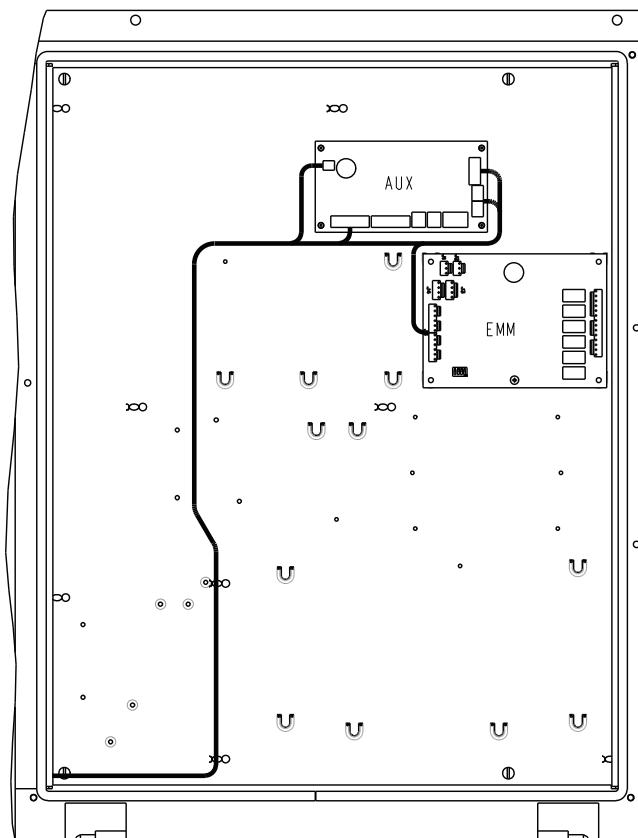

Fig. 17 — AUX Board Installation Location — 38APS065 Units
7. If the unit already has an AUX board installed, skip to Step 9. Install AUX board (Item 14) using 4 AC41AB100 screws (Item 16) provided. See Fig. 17. Set DIP switch 2, 5, and 7 = ON. See Fig. 2.